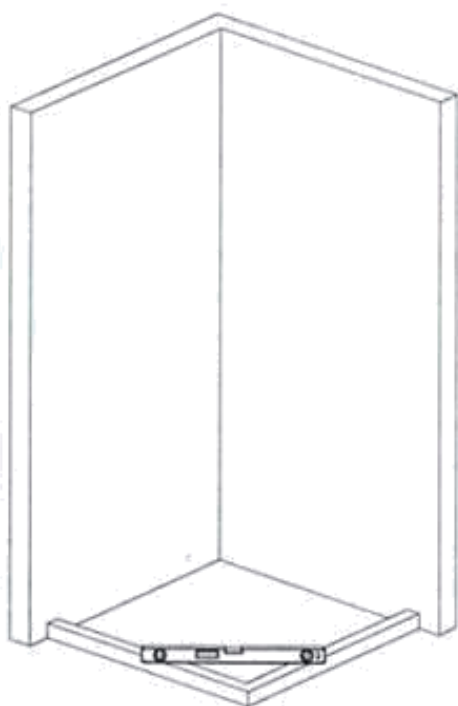

Fig 1
1. Put the tray at the designated position and level it. (Fig 1)